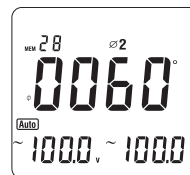

Figure 24
- Then press **SELECT** again to choose the second phase  $\varnothing 2$ , see figure 24.